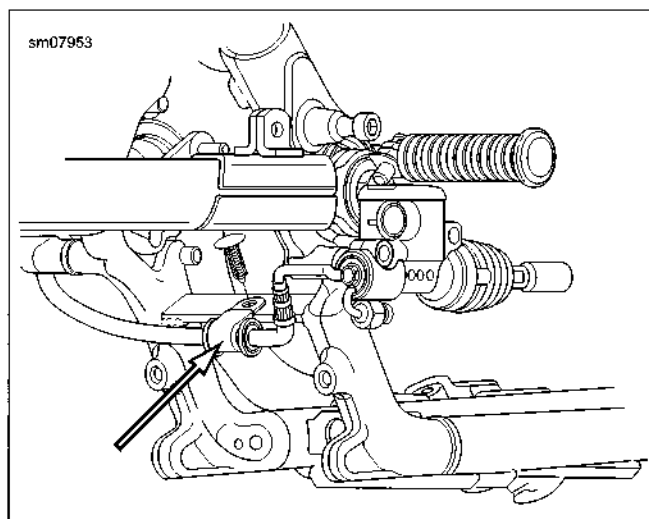

Figure 2-82. Rear Brake Line J-clamp
- See Figure 2-82. Remove brake line from J-clamp.
- See Figure 2-82. Install banjo bolt and new sealing washers to master cylinder.